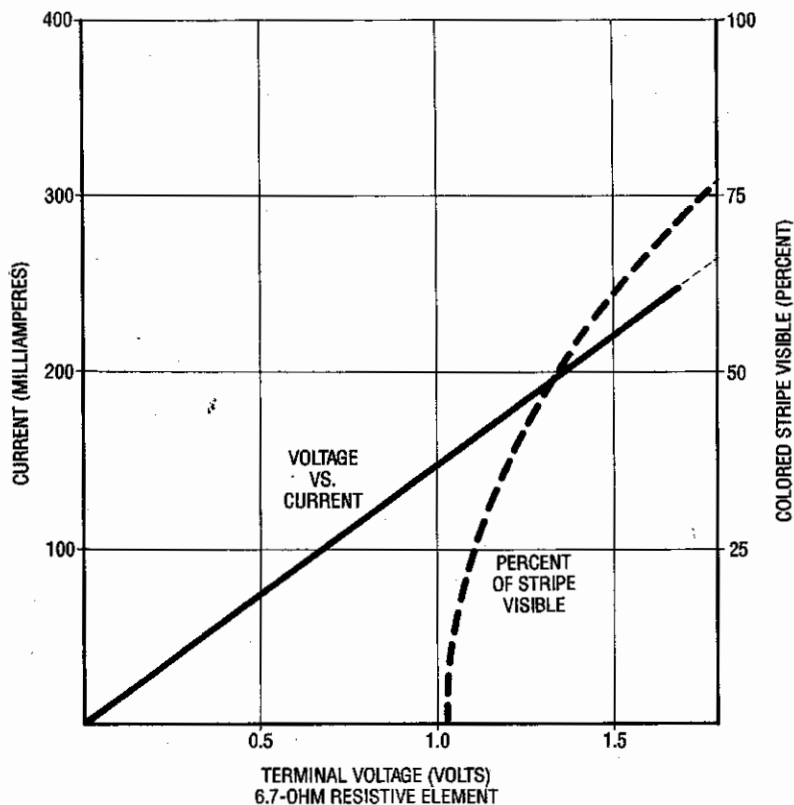
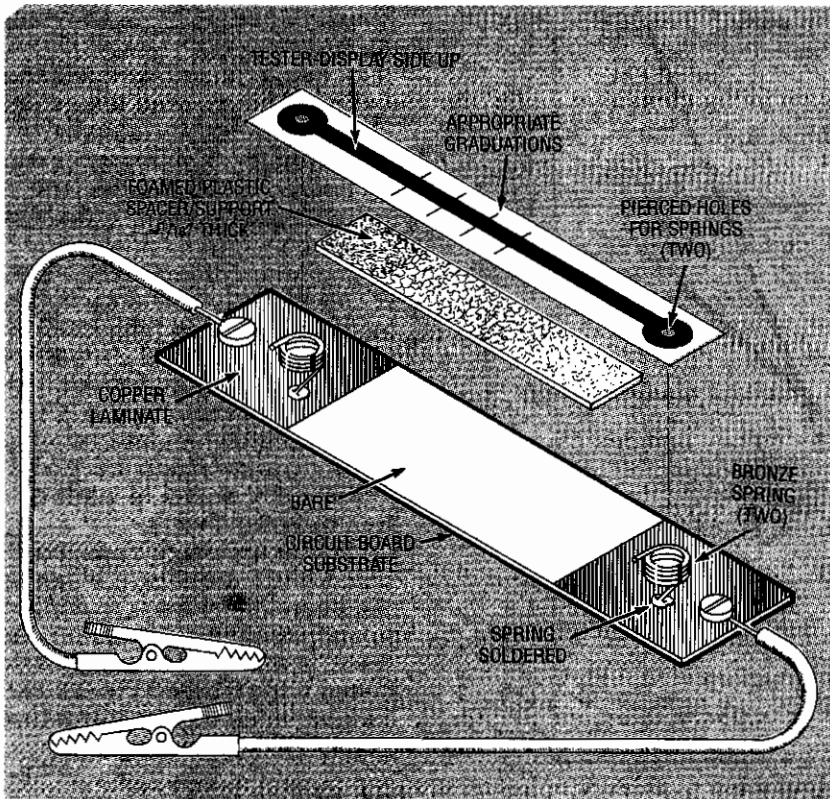

FIG. 3—CURRENT VS. VOLTAGE and voltage vs. visible stripe graph for a D cell tester (6.7-ohm resistive element).
FIG. 4—ONE WAY TO MOUNT THE TESTER for practical applications such making an ammeter (shown) or as the indicating element in an RF dummy load.
Figures 3 and 4 are normalized voltage vs. current curves obtained from salvaged testers. They will permit you to calibrate any ammeters you build. Figure 3 was plotted from 5-ohm resistive elements taken from AA and C cell testers, and Fig. 4 was plotted from 6.7-ohm elements taken from D-cell testers. These graphs also correlate
- *Do Not* pass more than about 300 milliamperes through the resistive element. (See Figs. 3 and 4.) If higher operating currents are required, shunt the resistive element with a discrete resistor of the proper value.